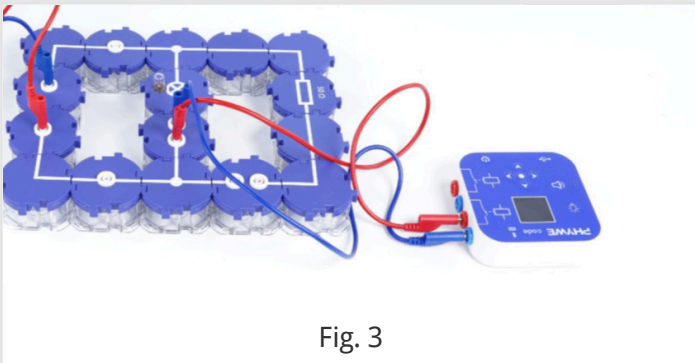

Fig. 3
- Connect the top two connections of the Cobra SMARTSense code below the light bulb. The top two connections are the ones at the height of the PHYWE logo. (Fig. 3)